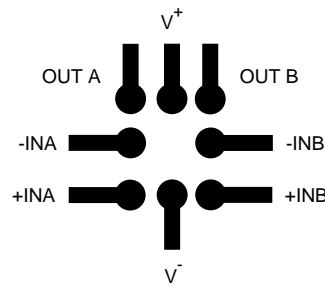

Figure 31. Typical PCB Layout
4. The output trace should be routed away from inputs. The ground plane should extend between the output and inputs to act as a guard. This can be achieved by running a topside ground plane between the output and inputs. A typical PCB layout is shown in Figure 31.